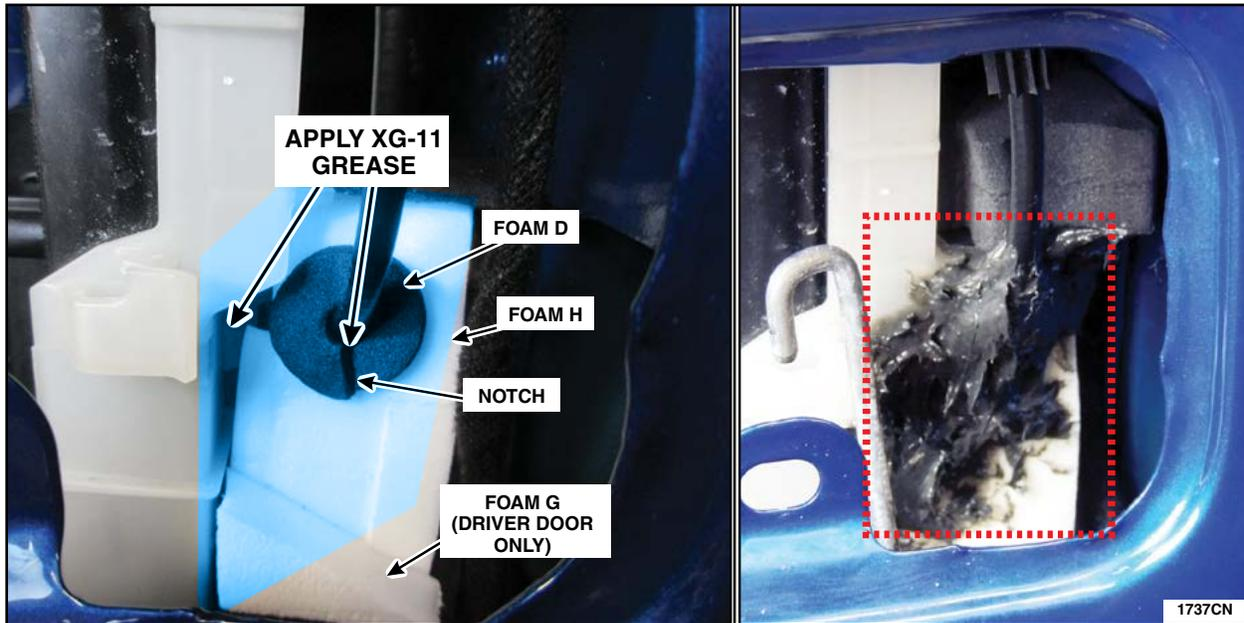

FIGURE 39
8. Apply XG-11 grease on top of and around Foam D after Foam D is installed. The Foam D notch, the gap between the cable and Foam D, and the gap between the door glass run and Foam H must be covered with grease. See Figure 39.